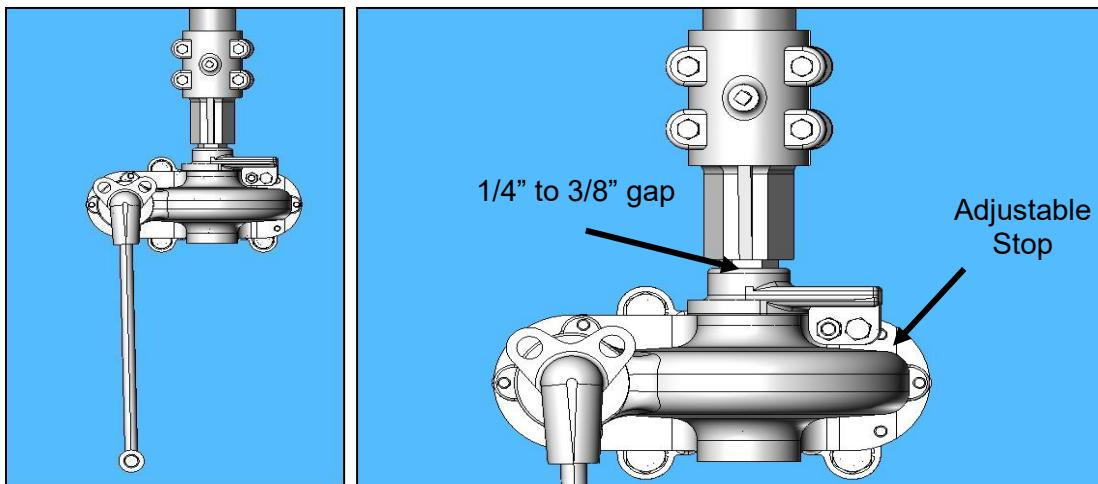

Figure 13: Type HOGO (High Output Geared Operator) Front View
- 2.1.1. The weight of the vertical operating pipe should be supported by pipe collar (Error! Reference source not found.) by maintaining the 1/4" - 3/8" gap (**Figure 13**).
- 2.1.2. When the switch is properly adjusted the operator handle should hang freely in both the open and closed positions to permit the use of a customer supplied padlock. Refer to **Figure 13**.